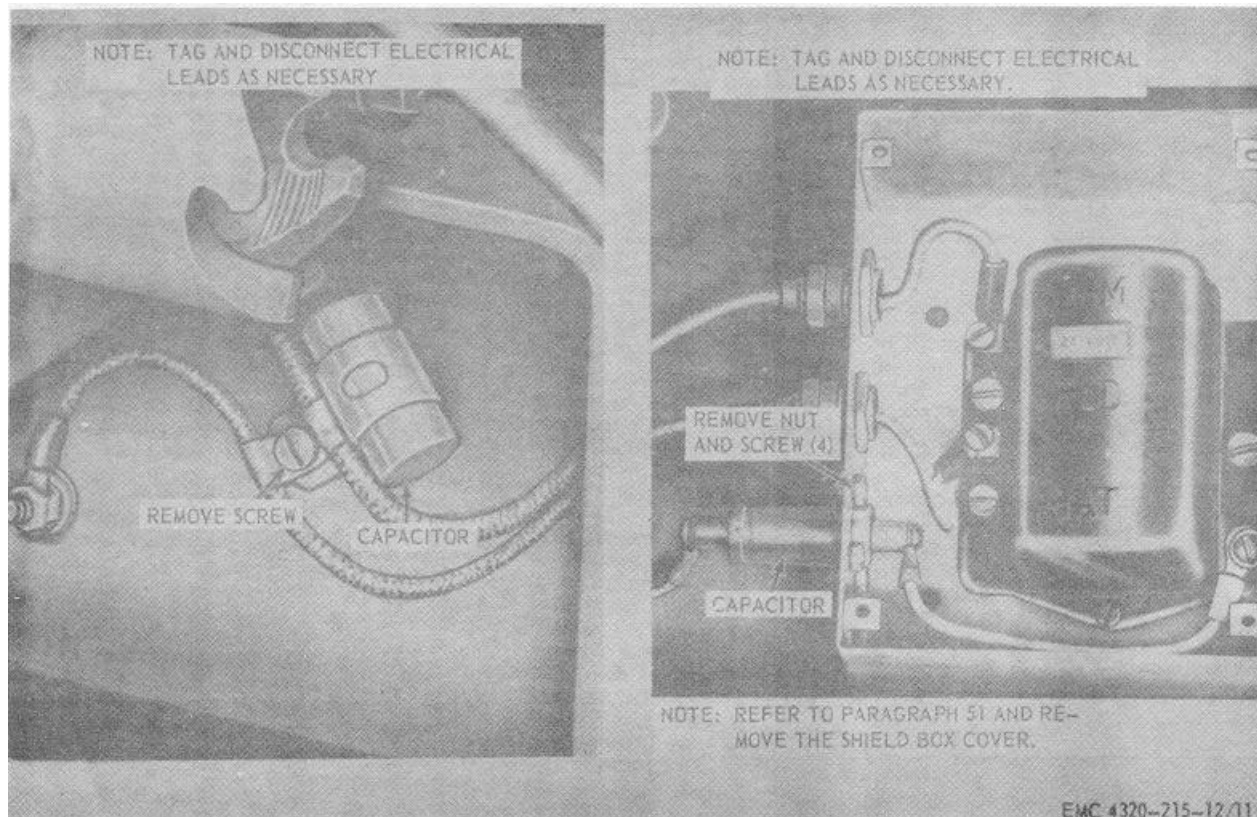

Figure 11. Radio interference suppression components, location, removal, and installation.
- a. Refer to figure 11 for the location, removal, and installation of radio interference suppression components.